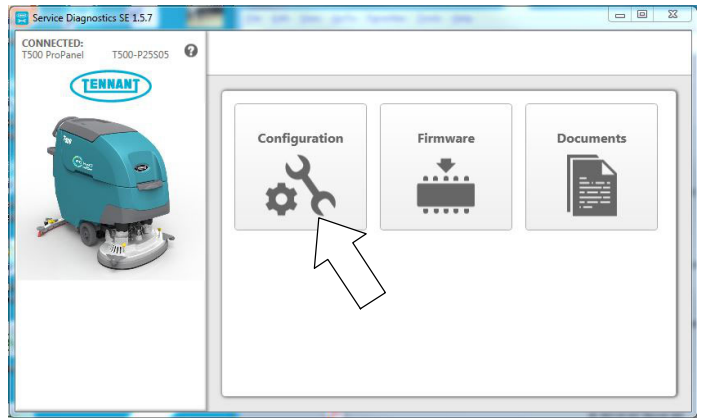

Fig. 42
3. From the Home screen, select the "Configuration" button (Figure 42).
2. If firmware updates are required, the "Firmware" button on the home screen will be highlighted in yellow as shown (Figure 42). Press the button to update the machine's firmware.